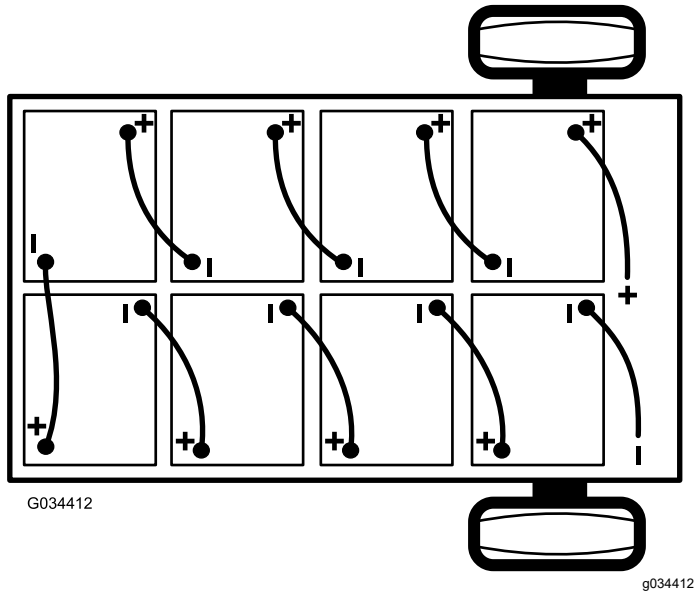

Figure 41
2. Disconnect the main negative-battery cable (black) that connects the bank of batteries to the ground point of the machine (Figure 41).
3. Disconnect the main positive-battery cable (red) that connects the bank of batteries to the main contactor of the machine (Figure 41).
Note: Pay attention to the battery polarity when installing the new batteries (Figure 41).
6. Connect the batteries together as shown in Figure 41 with the battery-interconnect cables that you removed in step 1.
2. Connect the main positive-battery cable (red) between the bank of batteries and the machine (Figure 41).
3. Connect the main negative-battery cable (black) between the bank of batteries and the machine (Figure 41).